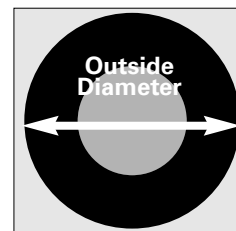

Figure 16 - Measure Outside Tire Diameter
**2.** Measure the outside tire diameter, see figure 16, and enter this diameter manually using the keypad.